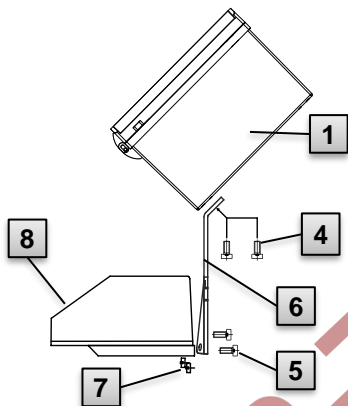

Fig. 6
1. Using two M5 x 10 mm (Fig. 6: 4) cylinder screws, attach the mounting bracket (Fig. 6: 6) to the EK280 (Fig. 6: 1).
3. Attach the mounting bracket using two square nuts M5 (Fig. 6: 7) and two M5 x 10 mm (Fig. 6: 5) cylinder screws at the back of the meter head (Fig. 6: 8).